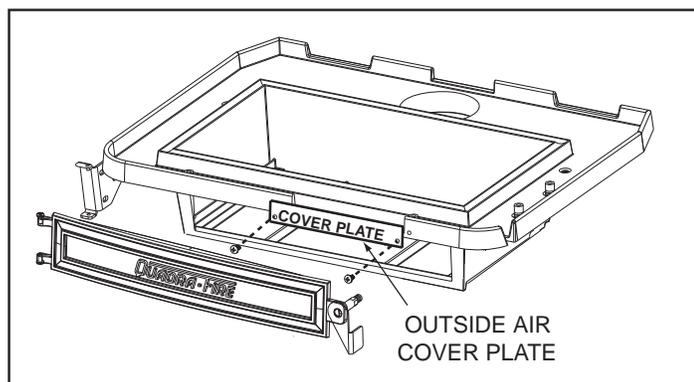

Figure 15.1
3. Remove 2 screws from the stove bottom. Place cover over the air opening and secure with same 2 screws. **Figure 15.1.**